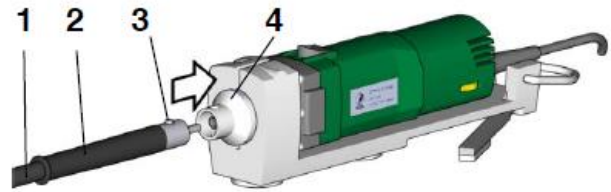

Fig. 3 Square shaft connection
The retaining spring knob (3) must engage in the hole in the motor flange on the drive (4) (see Fig. 3).